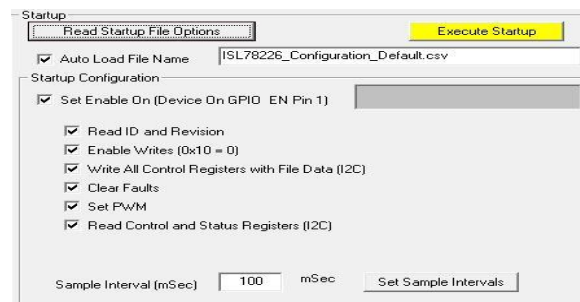

Figure 34. Execute Startup
(3) The file contents set the option buttons in the **Startup Configuration** panel shown in Figure 34.